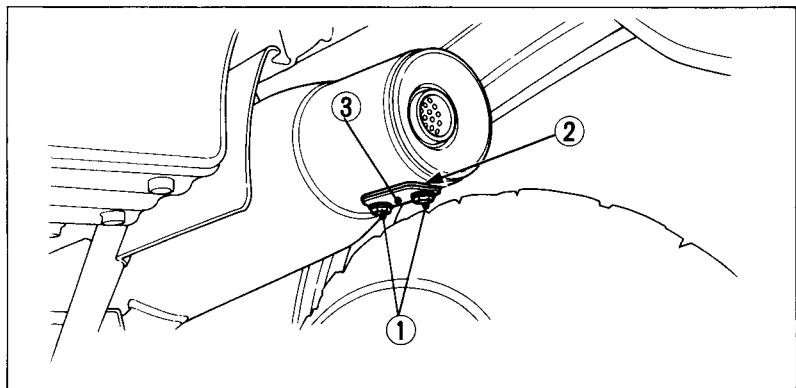

Fig. 4-36
2. Remove the bolts (Fig. 4-36), gasket (2) and spark arrester lid (3).